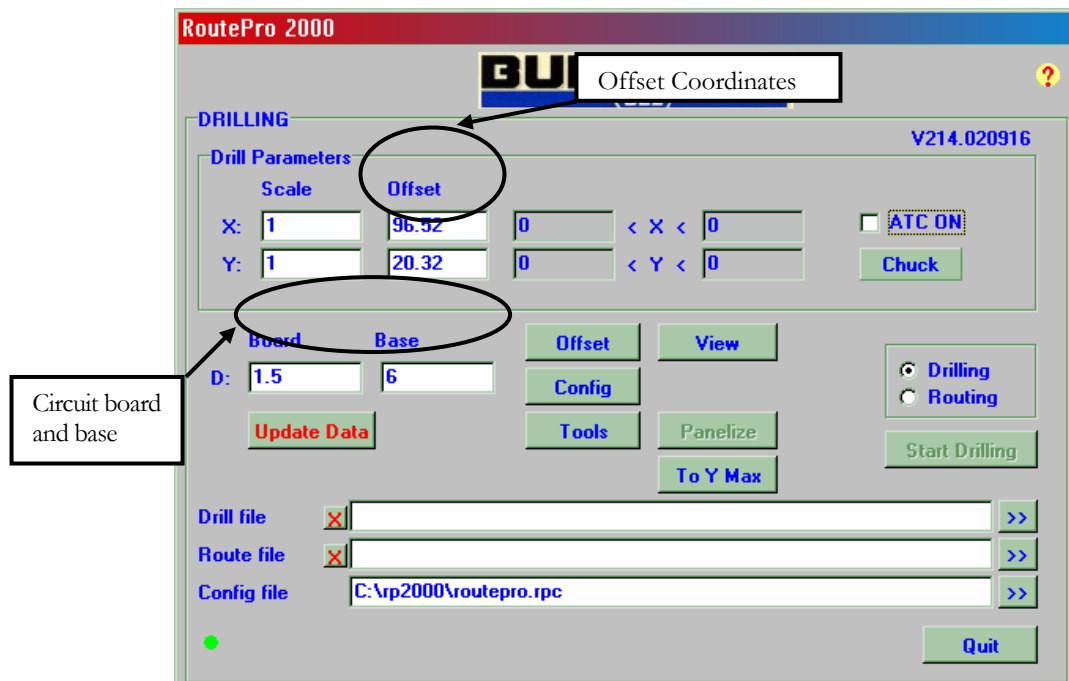

Figure 1 – Main drilling window.
5. In the RoutePro window, enter the thickness of the base board and circuit board into their corresponding locations. See Figure 1. These settings must be accurate and must remain the same throughout the milling process. The thickness of each may be verified with a metric ruler or caliper.
7. Write down the offset coordinates from main window to use for the remainder of the milling process. See Figure 1.